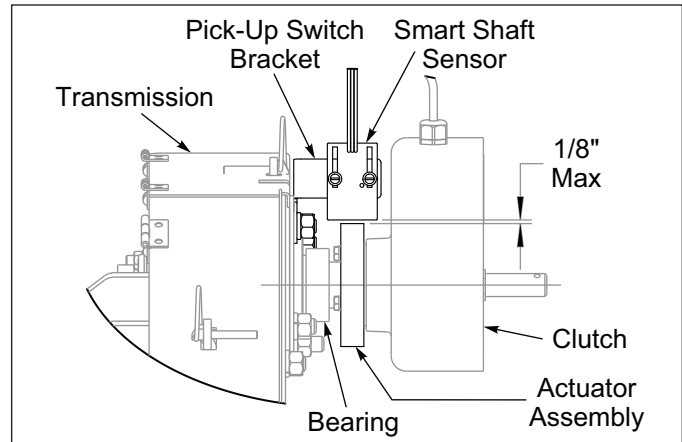
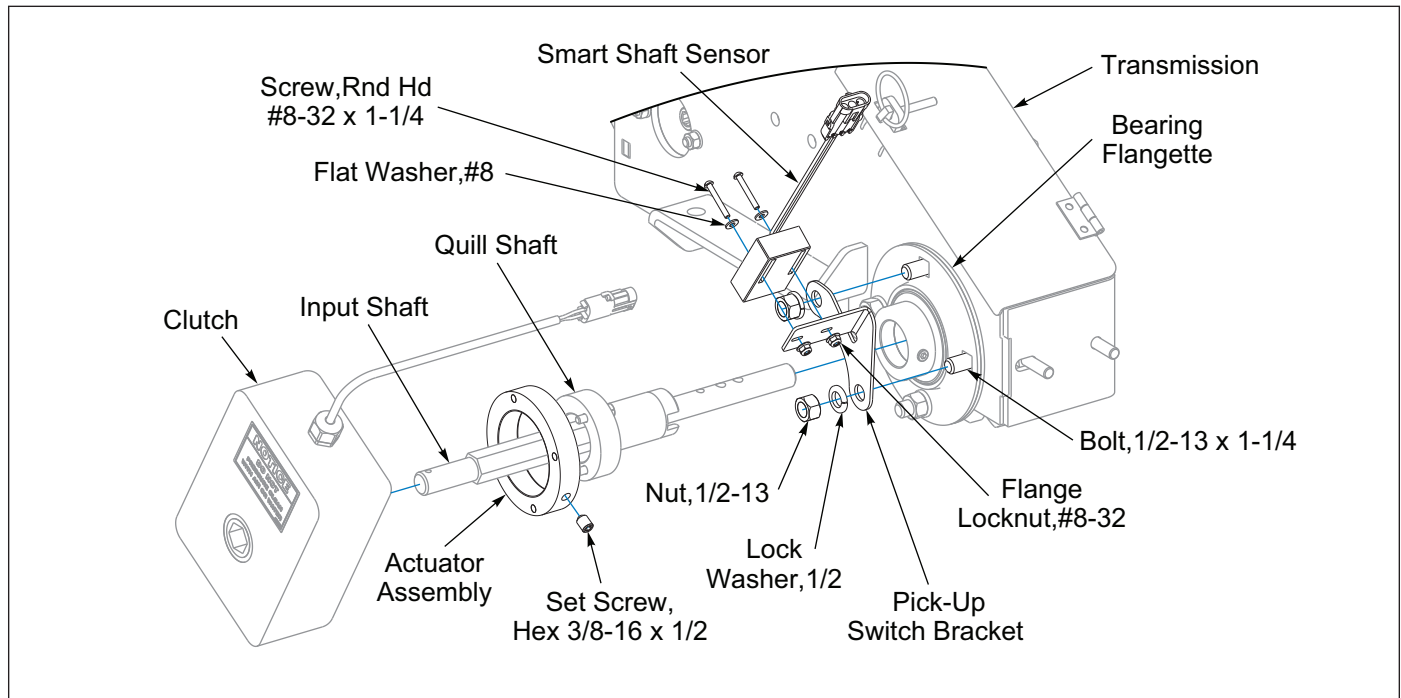

Figure 2-30: Ground Speed Sensor Detail
Figure 2-35: Brillion Elite Mini Monitor - Ground Speed Sensor
2. Remove Seeder Clutch. Install Actuator Assembly onto the Quill Shaft outer diameter, securing with Actuator Assembly Set Screw. Reinstall Clutch. See Figure 2-35. Install Pick-Up Switch Bracket to the Transmission Input Shaft Bearing Flangette Hardware. Assemble Smart Shaft Sensor onto the Pick-Up Switch Bracket with sensor provided hardware and #8-32 Flange Locknuts. Adjust the Smart Shaft Sensor so that it is 1/8" Max away from the Actuator Assembly. See Figure 2-30. Connect Ground Speed Smart Shaft Sensor to the Center Seeder Harness.